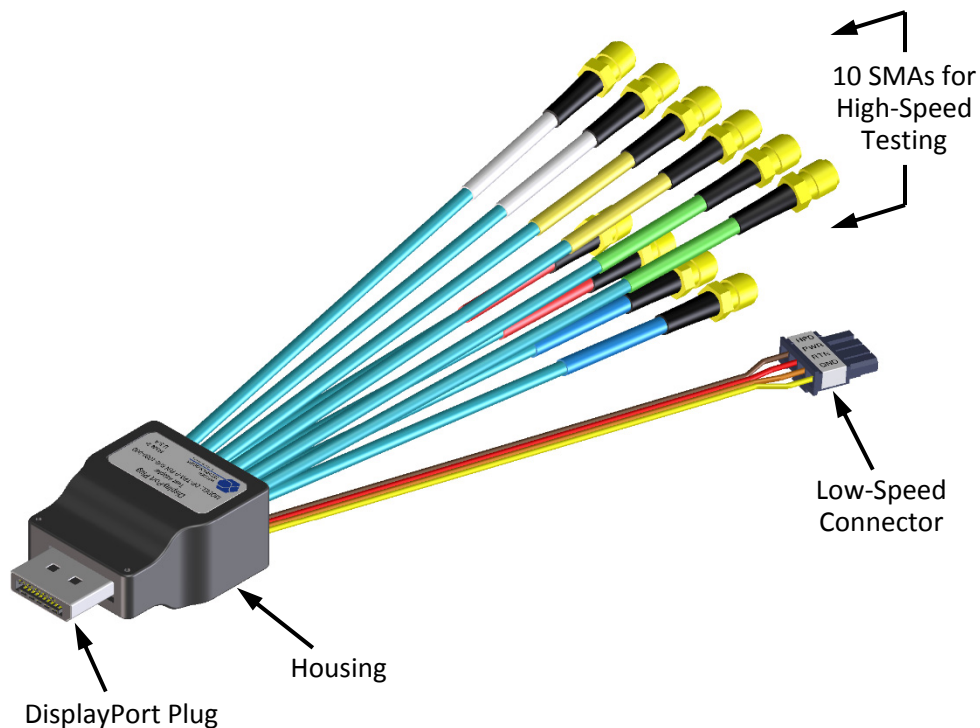

Figure 1. The DisplayPort Test Adapter (Plug)
This user's guide documents the DisplayPort Test Adapter (DP-TPA) and Calibration Module. The two test adapter types, shown in Figures 1 and 2, test DisplayPort Interface (DP) cables and devices against the VESA DisplayPort™ PHY Compliance Test Specification. The Calibration Module, shown on Page 13, is used to zero-out test adapter attributes (using SOLT, with either the 1X-THRU or the 2X-THRU).